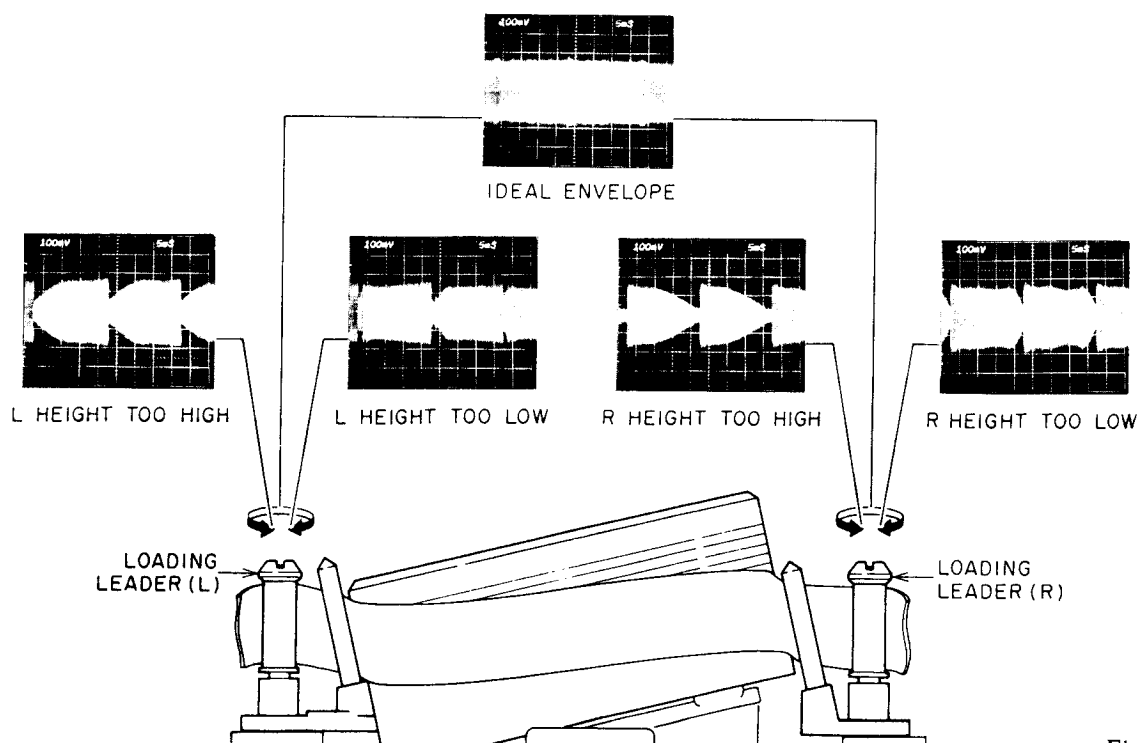

Fig. 5-13
- 4) Turn the LOADING LEADER heads with a screw-driver to obtain flat RF envelope as Ideal Envelope shown in Fig. 5-13.